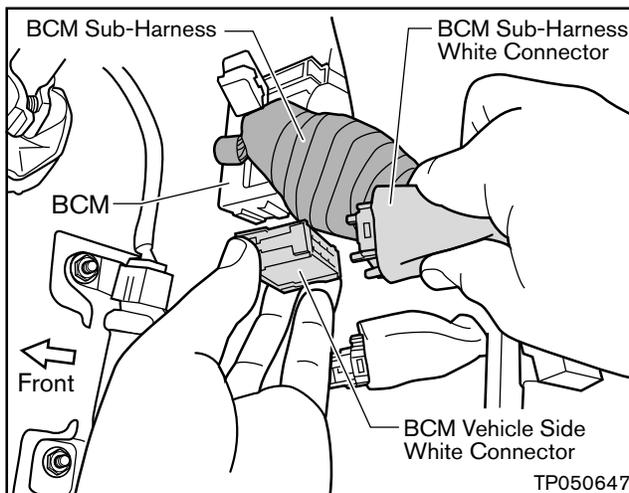
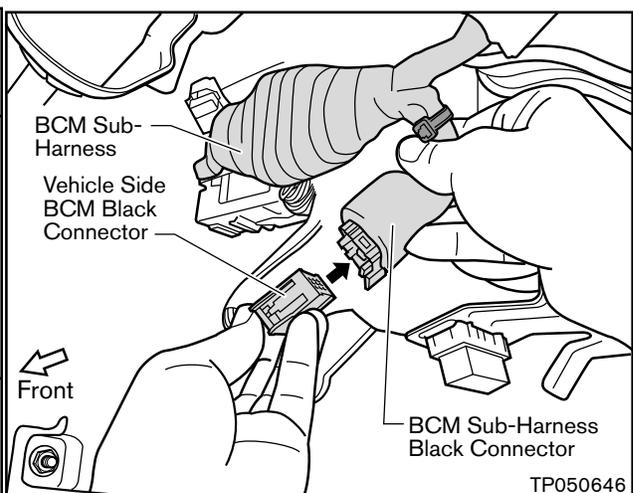

Figure 17a
Figure 17b
11. At the other end of the BCM Sub-Harness: Connect the White Connector to the vehicle-side harness white connector (see Figure 17a). Then connect the Black Connector to the vehicle-side harness black connector (see Figure 17b).